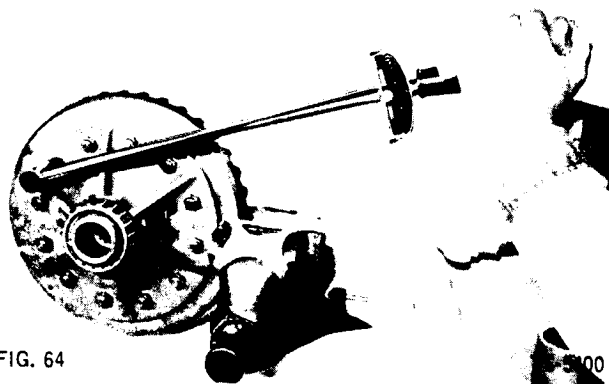

FIG. 64
7. Tighten differential ring gear nuts to specified torque (Fig. 64).